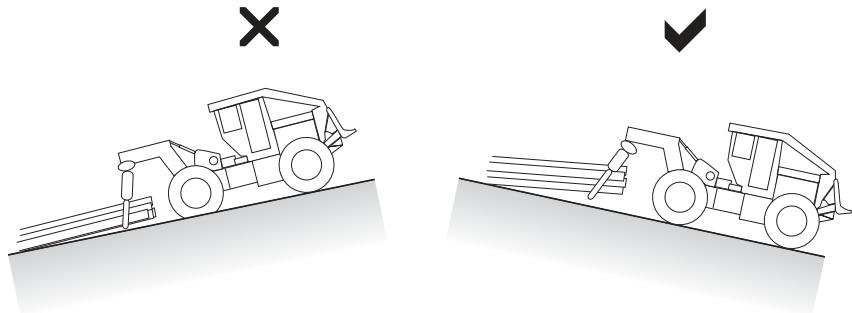

Figure 30. Try to skid downhill rather than uphill to keep axle loadings balanced and reduce slippage.
- Where possible, try to skid downhill rather than uphill. The risk of compaction and rutting is less with downhill skidding, because wheel slippage is less likely to occur (**Figure 30**).